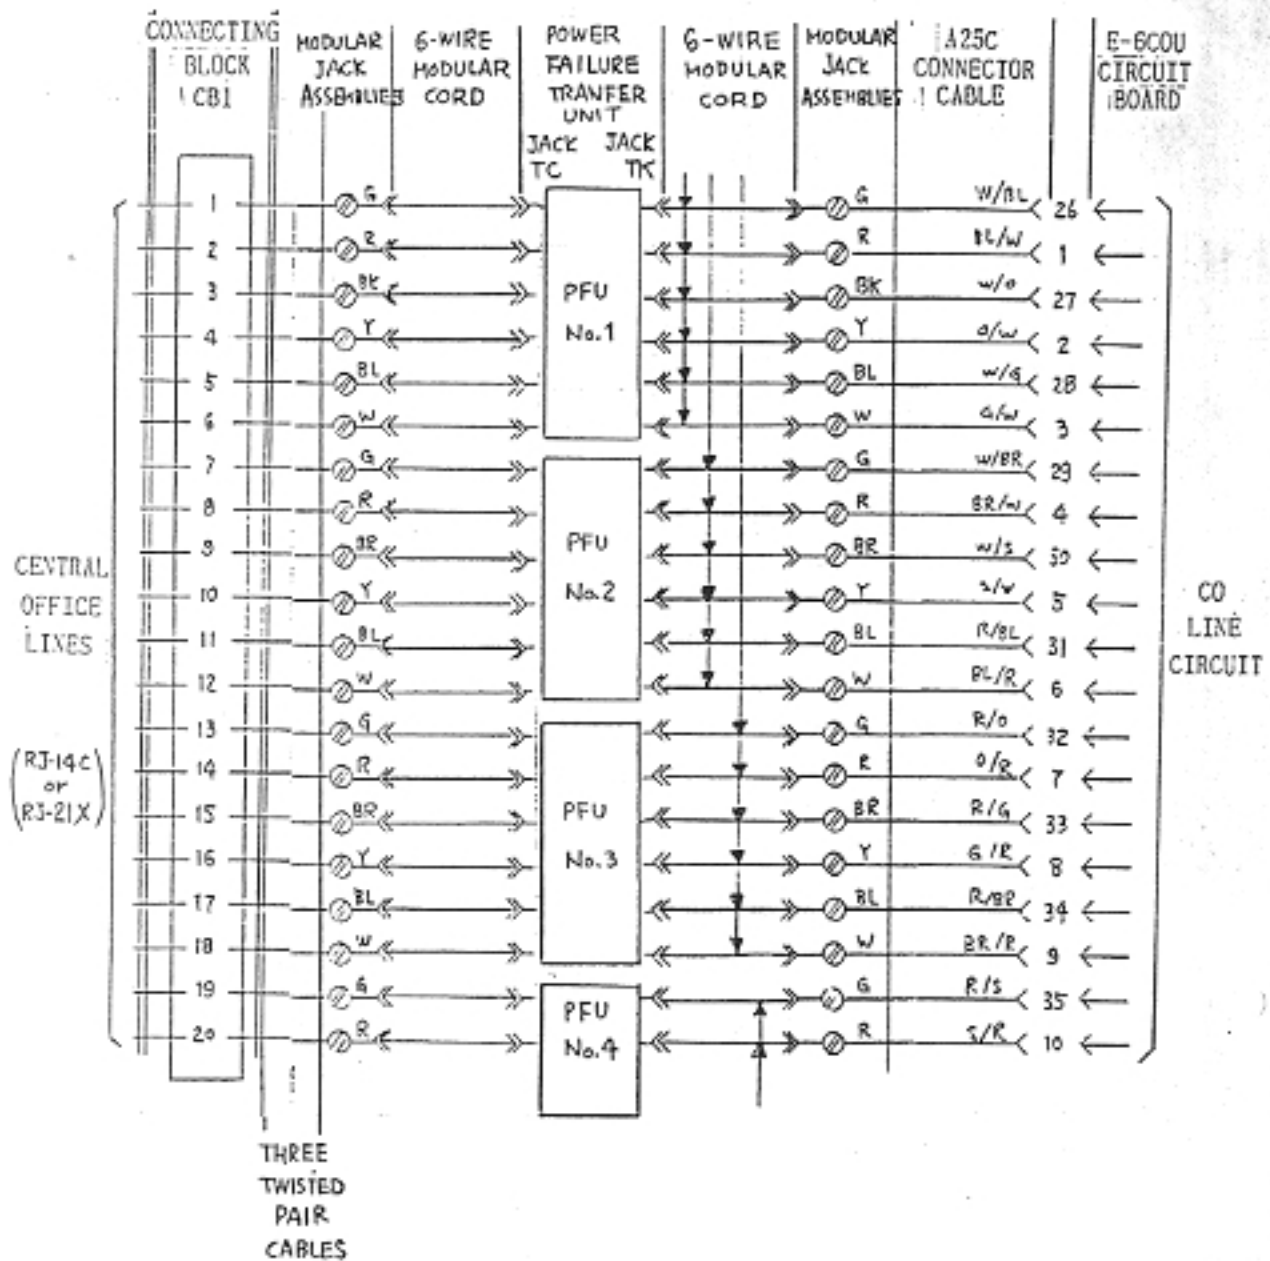

Fig. 1-3 Connections for Power Failure Transfer Units
- (1) Unplug the KSU's power cord from the ac receptacle.
- (2) Remove the cover of the power failure unit.
- (3) Mount the first PFU on the plywood backboard next to the KSU and label it No.1.
- (4) Connect jack CNJ in the KSU, which is labeled "PFU" in the lefthand of the KSU, with jack CNJ on the first PFU unit using the two-conductor modular power cord furnished with the PFU.
- (5) Mount one modular jack assembly to the plywood backboard between connecting block C81 to PFU.
(6) Run the three twisted pair cable from the modular jack assembly of step(5) to the connecting block C81.
(7) Terminate one end of the three twisted pair cable on the jack assembly and the other end of the cable on the connecting block C81 in accordance with Fig.1-3.
(8) Using a 6-wire double-ended modular cord, connect the modular jack assembly of step(5) with jack IC on the PFU.
(9) Mount the other modular jack assembly to the plywood backboard between the KSU and the PFU.
(10) Terminate the A25C female connector cable for the KSU on the jack assembly of step(9) in accordance with Fig.1-3.
(11) Using a 6-wire double-ended modular cord, connect the modular jack assembly of step(9) with jack IK on the PFU.
(12) Replace the cover of the power failure unit.
(13) Plug the single line telephones into jacks I11, I21, and I31.